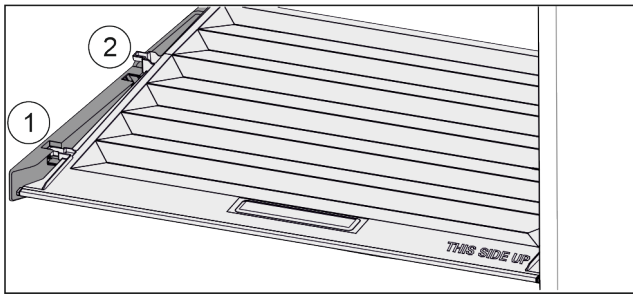

Fig. 68
- ▶ Pull the lid up at the front to the opening in the retaining parts Fig. 68 (1).
- ▶ Lift from the back and pull it up and out Fig. 68 (2).